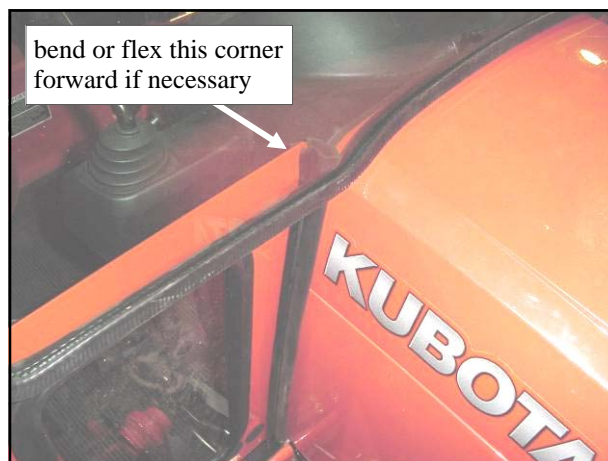

Fig. 17.6 (view from front of right side)
**17.6** Per fig. 17.6, if there is a gap, simply flex the upper inner corner of the front filler forward a little at a time until satisfied.